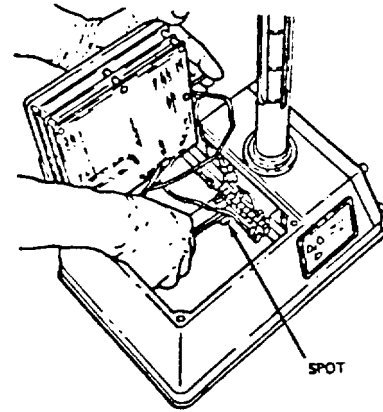

Figure 4-3. Swabbing the Spot
h. Loosen the four screws which are located in the corners of the tester's display panel. Lift the panel out of the tester and support it on the case. (See Fig. 4-3).
i. With the same swab that was used in e above, swab the red spot which is located within the tester and next to the internal radiation detector. The spot to be swabbed may not be painted red in some testers. (See Fig. 4-3).